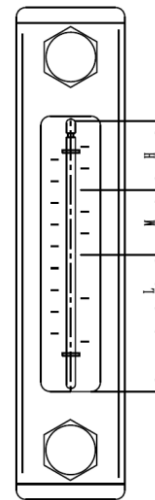

Figure 1-1 Oil Level Sight Gauge
- Examine the oil level on the hydraulic oil tank, i.e., level shall fall within the M range shown as Figure 1-1, and in the case of level within the L range, it is necessary to add hydraulic oil